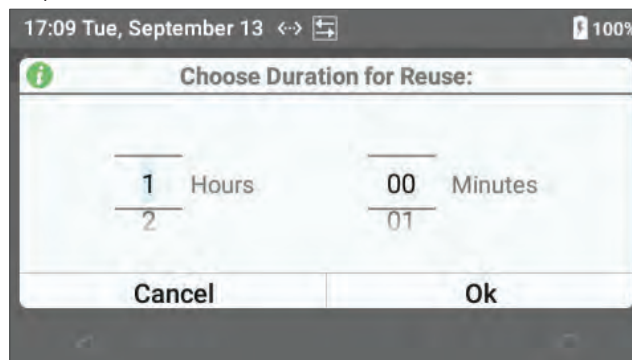

Figure 39: PID Reuse Duration
- 2 In the dialog box (Figure 39), scroll the **Hours** and **Minutes** to select the duration. The minimum duration is 1 hour; maximum is 240 hours.